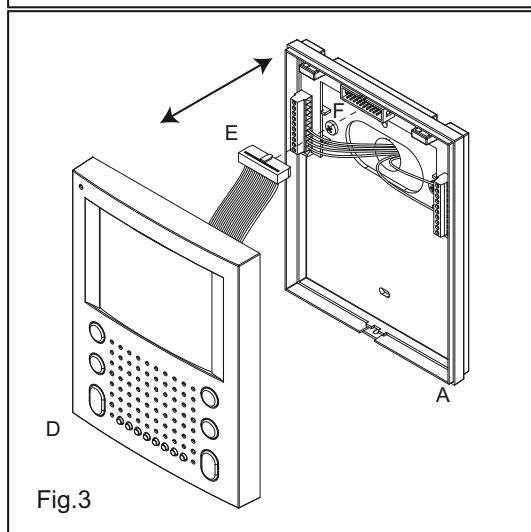

Fig.3
- To install Art.SL5478 it is necessary to open it. Follow picture n.4: turn screw "G", pull cover "D" and lift it up (or push it forward if the videomonitor is in horizontal position), then disconnect plug "E" (Fig.3) from plug "F" on the connection board housed on the bottom "A".
- As shown in figure 3, move cover "D" close to bottom "A", connect plug "E" to plug "F" on the connection board then proceed with the next step.